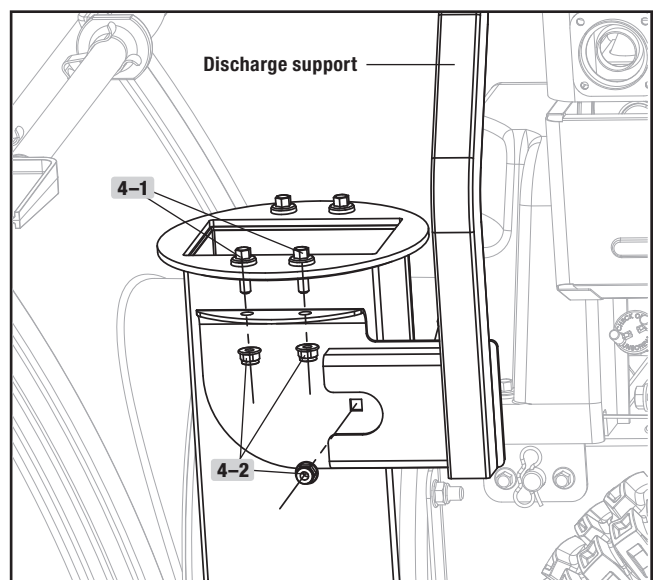

Figure 8
1. Locate the position for assembly (Fig. 8).
2. Remove the bolts (4-1) (Fig. 8) and nuts (4-2) (Fig. 8) from the main body as shown (Fig. 8). Set aside for next step.
4. Attach the snow discharge support on the main body with bolts (4-1) (Fig. 8).
5. Tighten all nuts (4-2) as shown (Fig. 8). Do not over-tighten.